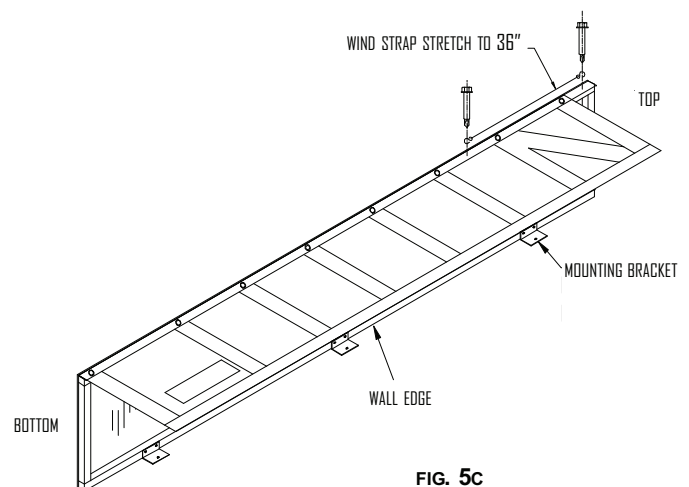

FIG. 5C
- Place wind strap "s" hook at hole at top of vertical frame (Fig. 5c)